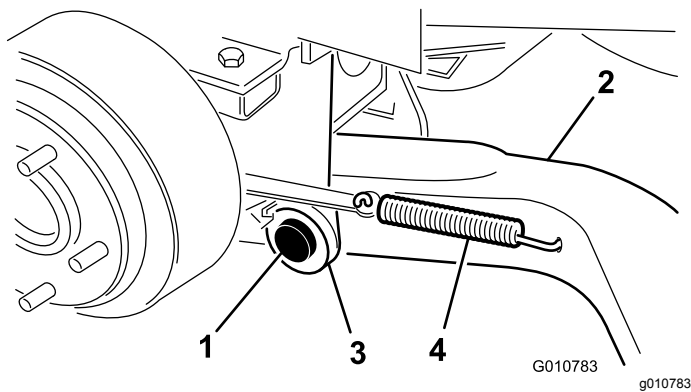

Figure 5
- Mount a lift arm (with the ball joint end positioned outward) to the pivot bracket with a pivot pin and a cotter pin (5/32 x 1-3/4 inches) (Figure 5).
6. Hook the brake return spring into the hole in the lift arm (Figure 5).